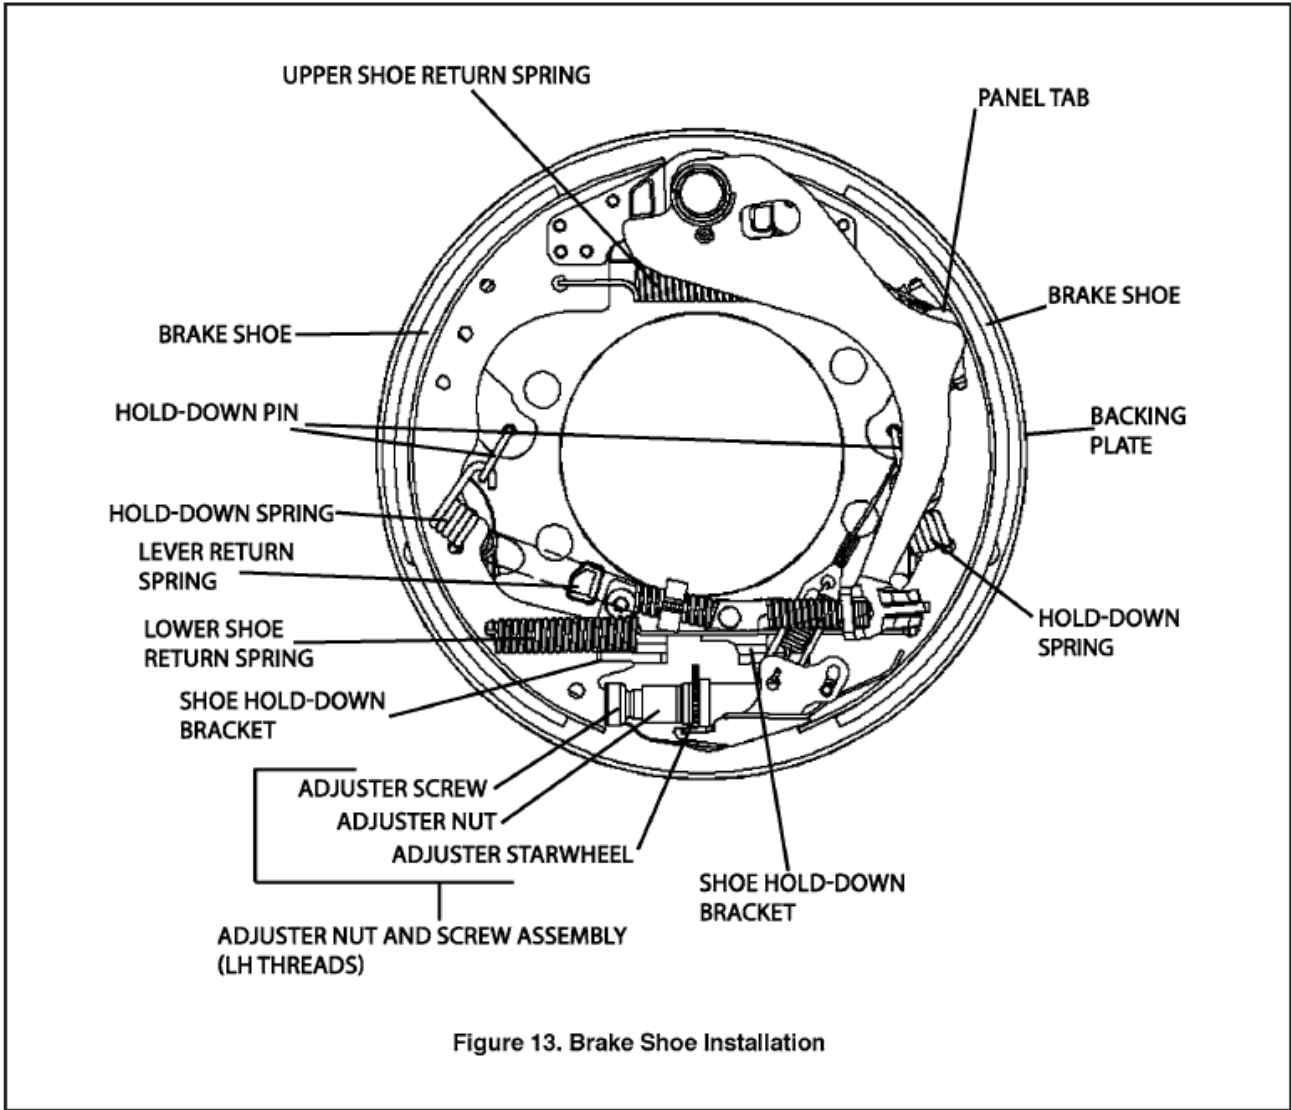

Figure 13. Brake Shoe Installation
- (1) Follow manufacturer's recommended procedures to ready the vehicle for servicing. Pay attention to all WARNING and CAUTION notes throughout this booklet.
- (2) Remove the drum. See section on SHOE REPLACEMENT.
- (3) Clean the individual brake components, removing dust and grease.
- (4) Visually inspect the brake shoes (Figure 13). Shoes should be replaced if there is uneven lining wear or when the remaining lining reaches 0.76 mm (0.030 in. or approximately 1/32 in.) thickness or less above the shoe. If grease, automotive fluids, or other foreign material that would compromise operation is found on, soaked into or embedded in the linings, the shoes should be replaced. Also, if cracks, excessive deformation, or wear on either end is found, the shoes should be replaced. See section on SHOE REPLACEMENT for service details.
- (5) Visually inspect the brake lever and cam (COMPONENT LOCATOR). If cracks, excessive wear, or abnormal deformation is found in either part, they should be replaced. Light wear, which typically shows up as polishing is acceptable. If unsure, replace brake lever, cam plate and anchor screw. See section on ANCHOR SCREW, LEVER, AND CAM REPLACEMENT for service details.
- (6) Inspect various springs and hold down pins (Figure 13) for excessive wear, heat discoloration, heavy corrosion or other damage and replace as necessary. See section on SHOE REPLACEMENT for service.
- (7) Inspect adjuster cable assembly for damage or wear (Figure 13). Replace as necessary. See section on SHOE REPLACEMENT for service details.
- (8) Inspect adjuster nut and screw (Figure 13) for any damage or corrosion to the threads or burrs, chips, corrosion or other damage to the teeth on the adjuster nut starwheel. Damaged teeth or threads may prevent proper function of the brake self-adjusting function. Replace as necessary. See section SHOE REPLACEMENT for service details.